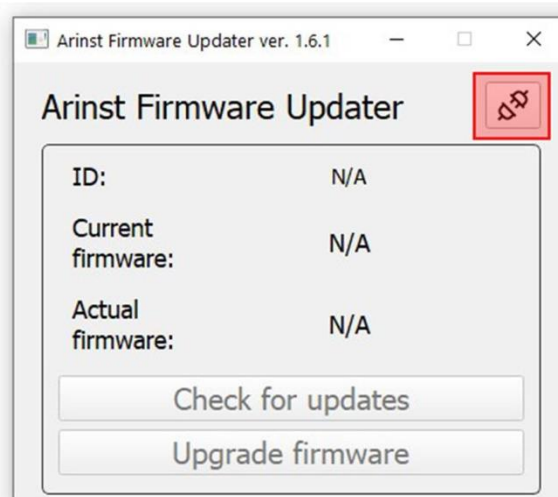

Figure A2.1 - Connecting the device to PC
2.3. Click the button 9 to connect the device to your PC (Figure A2.1).